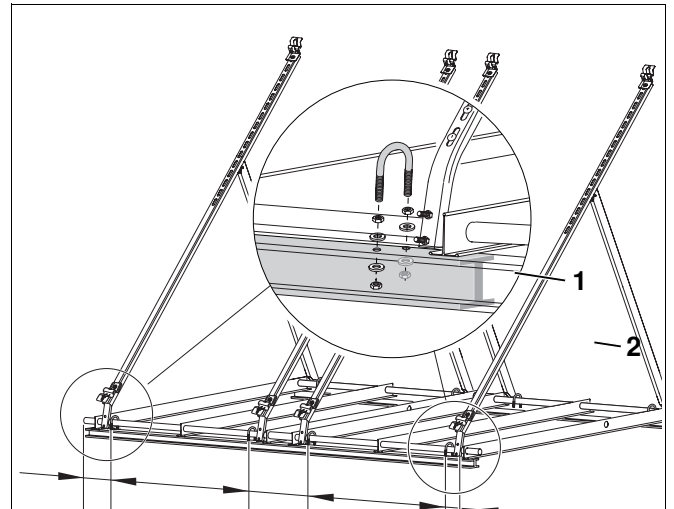

Fig. 34 Fitting profile rails (for two portrait collectors in this example)
- Lightly tighten the pre-assembled profile rails (Fig. 34, **Item 2**) with M8 x 20 bolts (Fig. 34, **Item 1**) so that the profile rails can still be aligned.